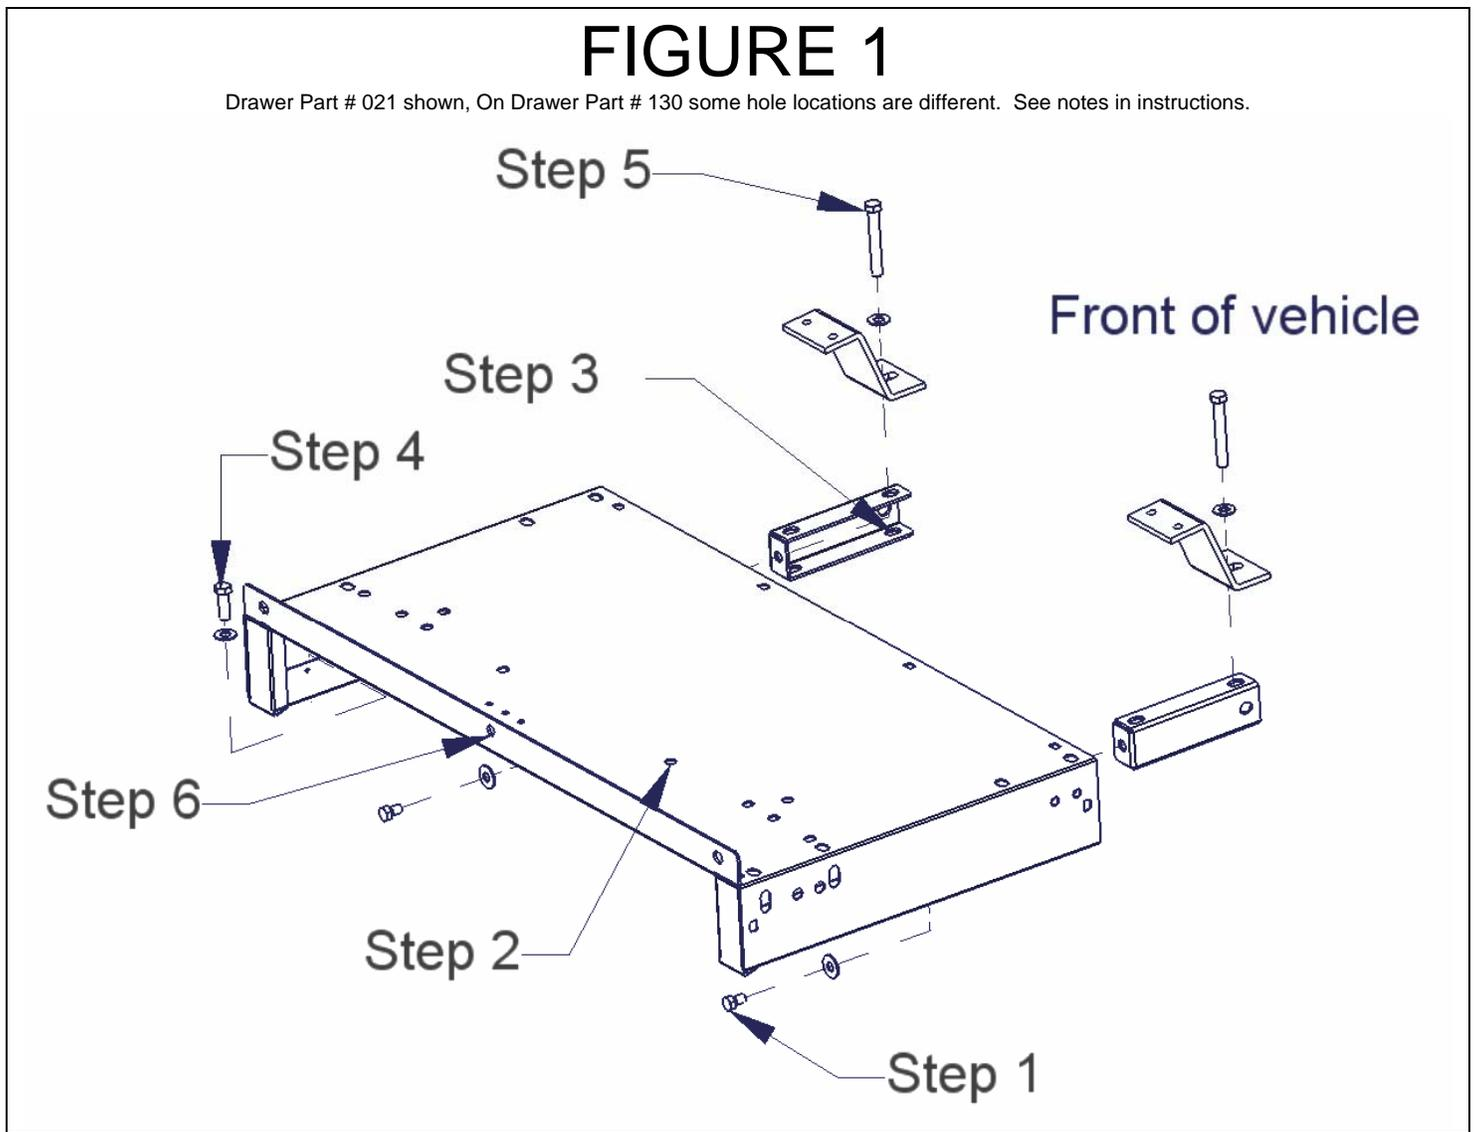

FIGURE 2
3. Remove the rear seat, remove the (2) original front mounting bracket from the bottom of the rear seat. Save all these parts and their mounting hardware you will reuse some of them.
5. Attach the (2) Tuffy mounting brackets to the (2) outer most holes in the rear of the drawer enclosure using (2) 3/8 x 5/8" Bolts, (2) 3/8" Washers. (See Figure 2, Step 1)
6. Place the drawer enclosure in the vehicle oriented with the drawer opening toward the front of the vehicle. Line the holes in the (2) Tuffy mounting brackets up with the original seat bracket mounting holes. (See Figure 2, Step 2)
7. Mark the floor of the vehicle under the (2) ½" oval mounting holes in the drawer enclosure. One is located on bottom right side and the other is located on the bottom left side. (See Figure 2, Step 3)
8. Remove the drawer and drill out the (2) marked spots on the floor to size ½" holes.
9. Attach the seat to the Drawer enclosure with the original seat bracket mounting bolts. (See Figure 2, Step 4)
10. Place the drawer enclosure with the seat in the vehicle. Secure the holes on the end facing the front of the vehicle with (2) 7/16 x 1 1/4" bolts, (2) 7/16 Nylock nuts, and (4) 7/16 Washers. It is recommended to use silicone sealant in any drilled holes. (See Figure 2, Step 5)
11. Secure the end of the drawer enclosure with the Tuffy mounting brackets and the original seat mounting bracket with the seat belt harnesses down using (2) 7/16 x 3" Bolts and (2) 7/16" Washers to the original seat bracket holes. (See Figure 2, Step 6)